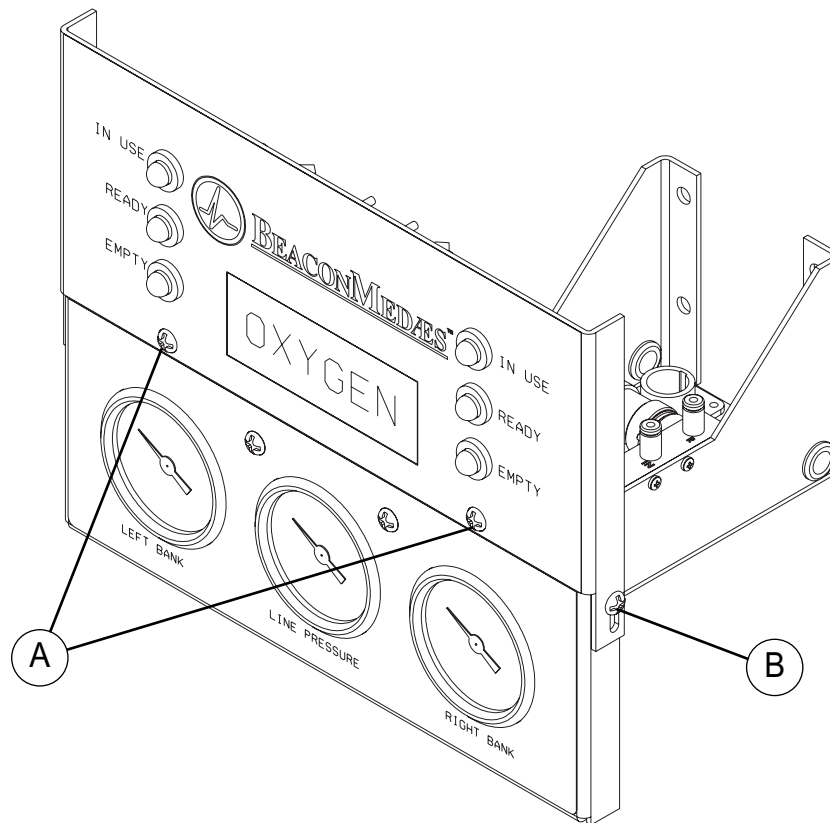
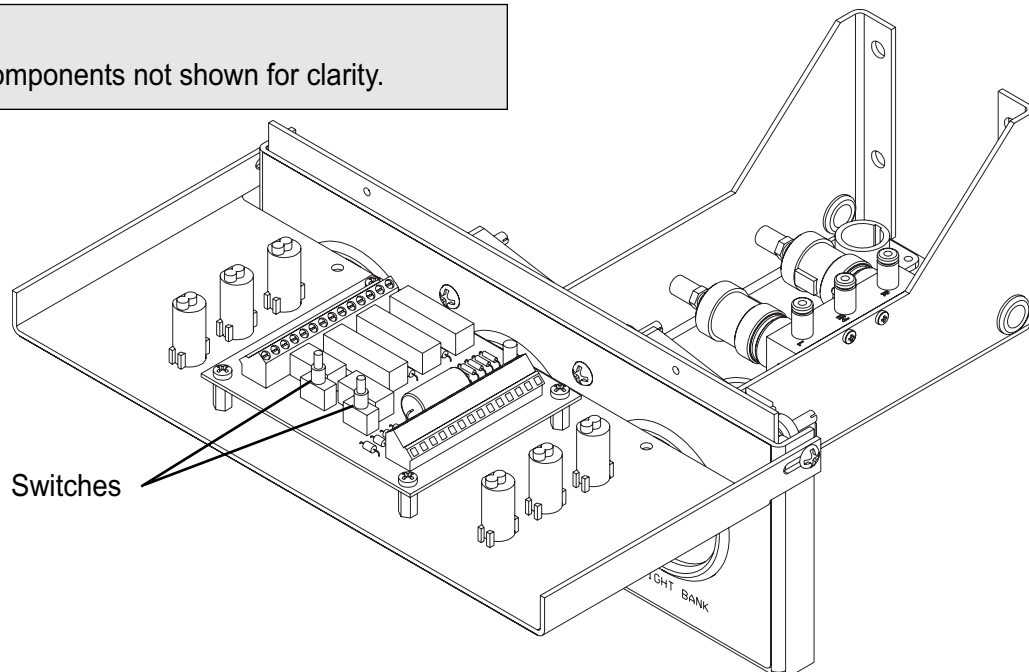

Figure 18
Figure 19
1. Remove two front panel screws A (Figure 18). Loosen two hinge screws B (Figure 18). Fold front panel down to service position as shown in Figure 19. Lightly tighten two hinge screws.